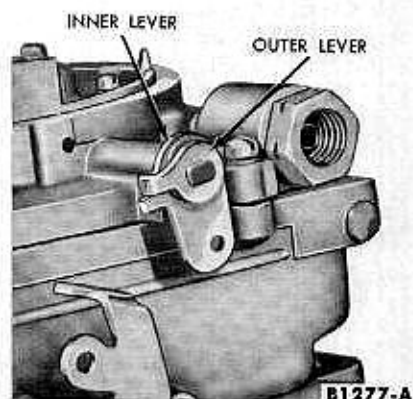

FIG. 42—Countershaft Lever Installation
30. Connect the choke connector rod to the countershaft lever. Slide the countershaft lever on the countershaft with the "C" identification facing out. Working on the other end of the countershaft lever, be sure the tang on the countershaft outer lever is over the tang on the countershaft inner lever (Fig. 42). Tighten the countershaft lever snug, but not tight.